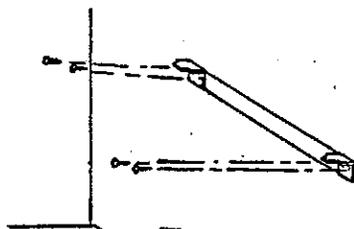
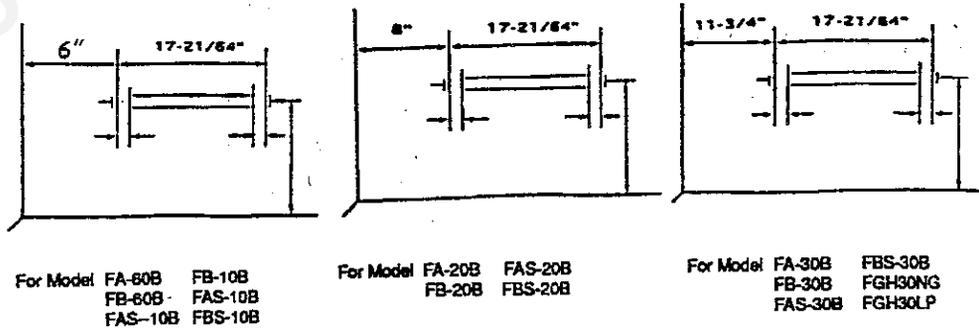

Figure 3
Figure 4
- Install mounting brackets on wall as shown in Figure 3 use enclosed "paper template" for proper location of hole. See Figure 4. (It may be necessary to use plastic or lead anchors for plaster walls).